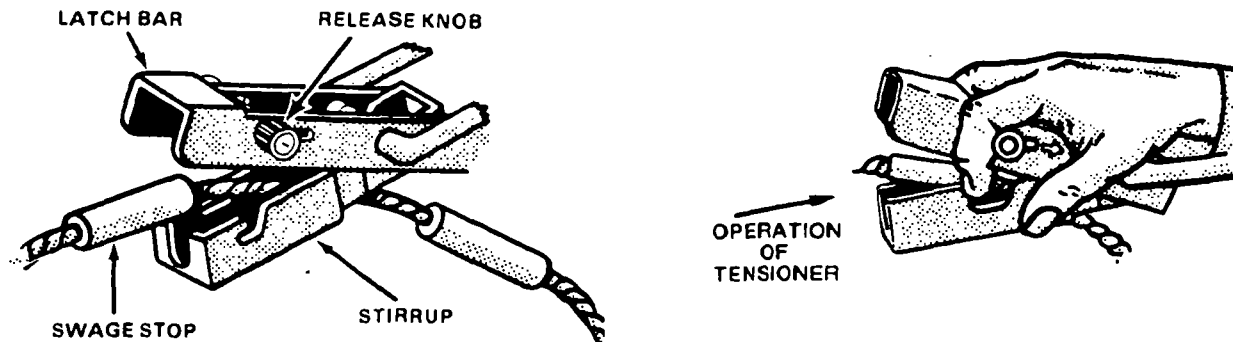

Figure 9-9. Tensioner and Its Operation
- Pull the ends of the sling cable containing the swage stops through the sling tensioners (Figure 9-9) until the bridle is tight across the top of the load and slack is out of the cable.